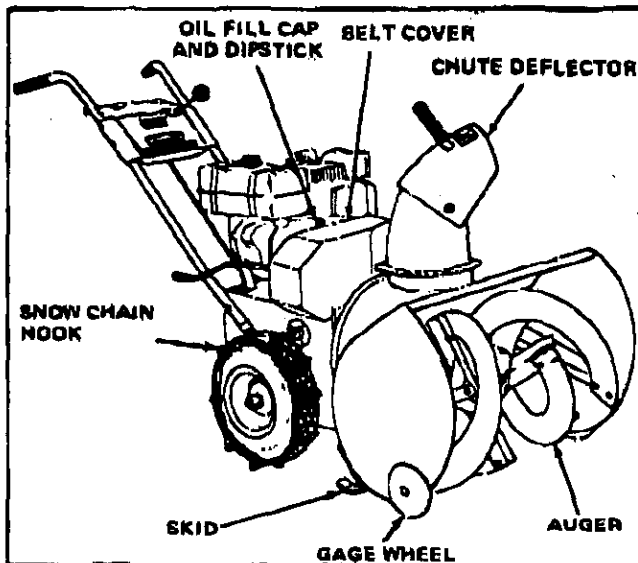

Figure 2
1. Remove the oil cap and dipstick (figure 2) and fill crankcase to the FULL line on dipstick (approximately 1 1/2 pints) with SEARS 5W-20 motor oil which was included with the unit. Replace the oil cap and dipstick and tighten securely. Always check oil level before starting the engine and after each five hours of continuous use. Add oil as required. Do not over fill.